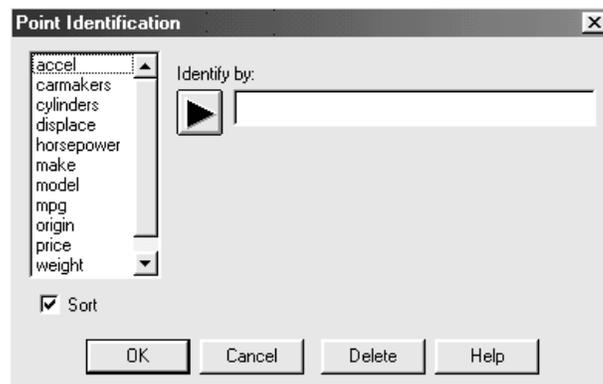

Figure 5-23. Point Identification Dialog Box
2. Click the Set Point Labels button on the Analysis toolbar (the scatterplot with a question mark) to display the Point Identification dialog box (see Figure 5-23).